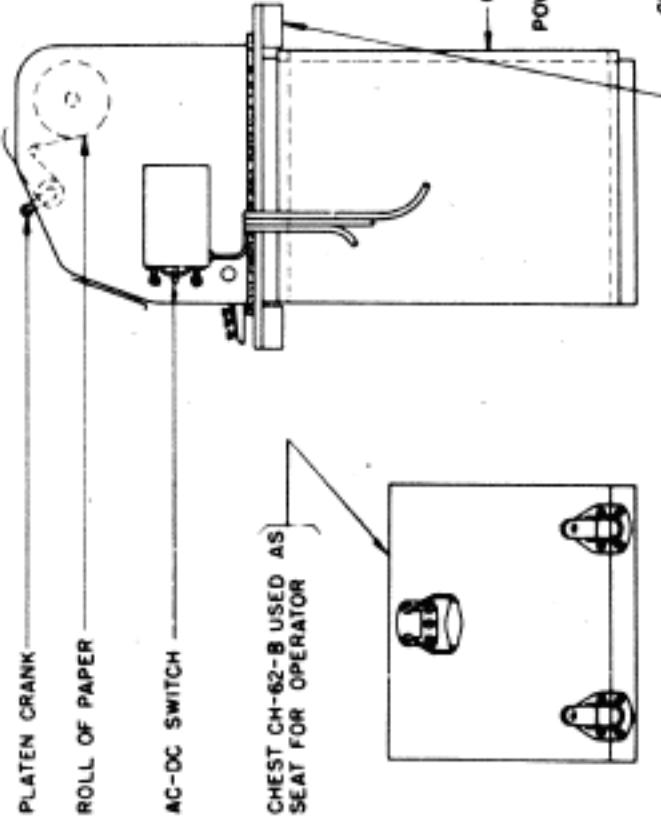

FIGURE 1.
7. LATCH CHEST CH-62-B COVER ON CHEST CH-62-B BASE POSITION CHEST AS SHOWN IN FIGURE 1.